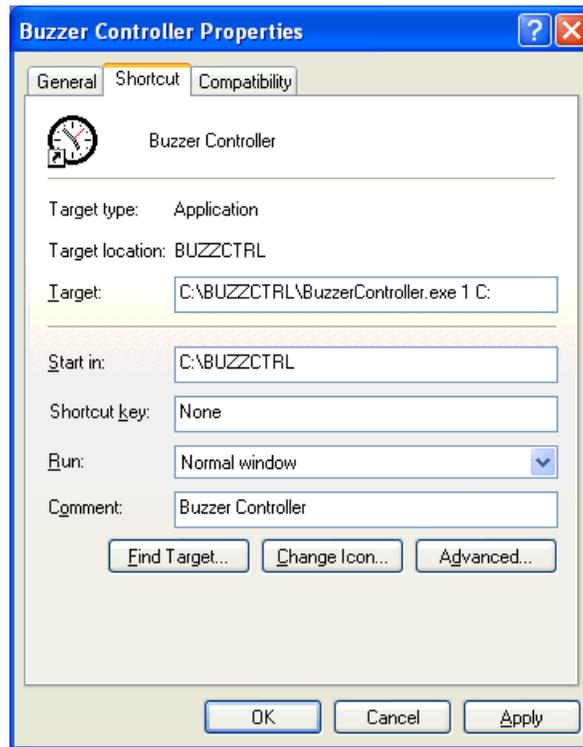

Fig 1.
- Right click on the "Buzzer Controller" program icon then choose the properties item (see fig 1)